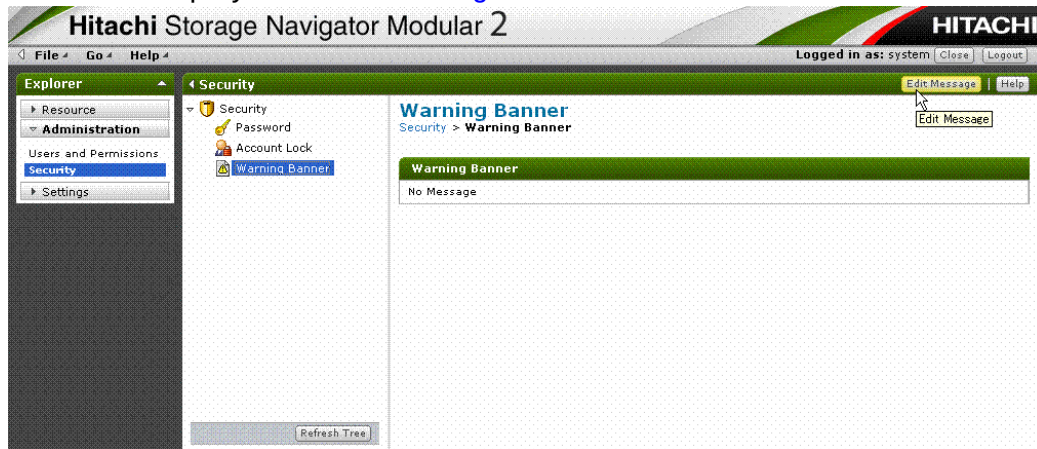

Figure 5-14: Warning Banner window, editing messages
4. Select the Warning Banner option in the Security menu. The Warning Banner screen displays. Then click Edit Message in the Warning Banner screen displays as shown in Figure 5-14.